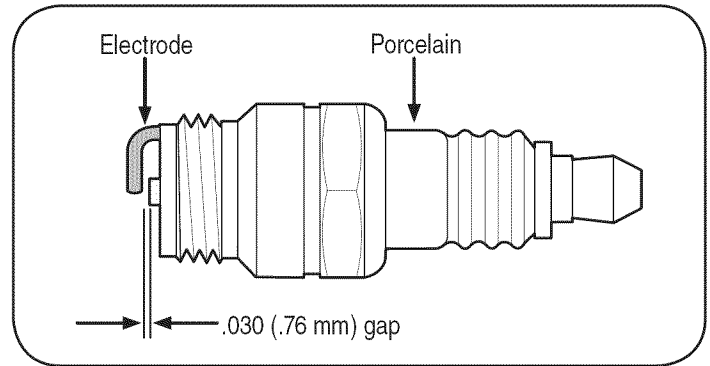

Figure 28
2. Remove and inspect the spark plug. Check gap to make sure it is set at .030". See Figure 28.